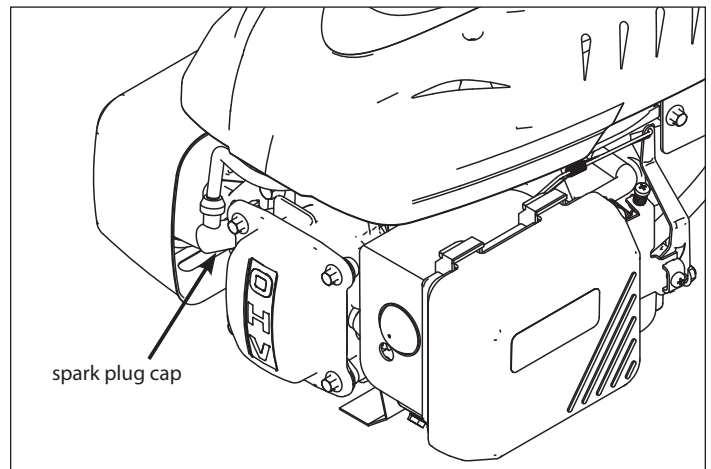

FIGURE 5: Spark plug location
1. Detach spark plug wire and move away from spark plug. If the engine uses a battery, disconnect at negative terminal. **SEE FIGURE 5**
The recommended spark plug is a DK7RTC. The spark plug is located to the left of the valve cover. **SEE FIGURE 5**